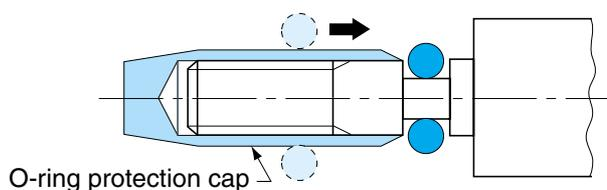

Fig. 2.6.1 O-ring installation jig
- 5) If an O-ring passes along a threaded surface or sharp edges during installation, take care not to damage the O-ring by using the following protection cap on the thread area as shown in Fig. 2.6.1.